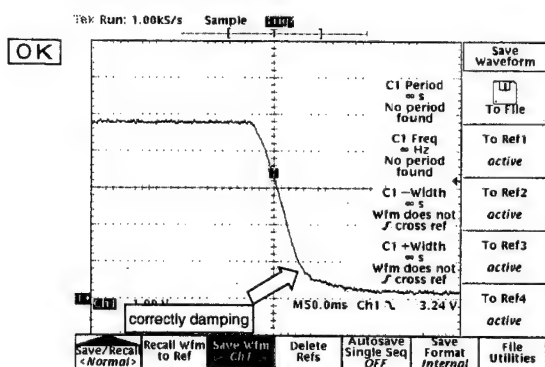

Fig.1
- (8) Enter 01 using the numeric key pad and press the RECALL key on the SNAPSHOT button selection. Then 02 using the numeric key pad, press the RECALL key.
- (9) Observe the CN102, pin2 on the oscilloscope, confirms this waveform becomes correctly damping waveform. (Fig.1)